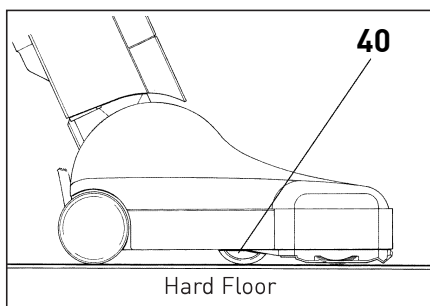

Figure 5
The Adjustment Wheel - Figures 5 & 6
On hard floors (figure 5), the adjustment wheel (40), moves upward into the machine so that the brush lowers and becomes flush with the floor.